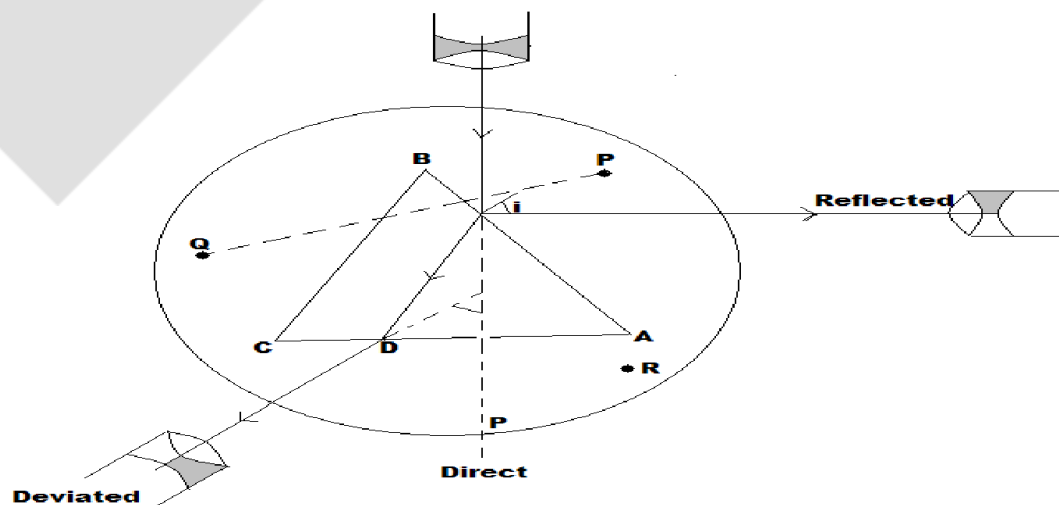

Fig 1.3: Set up for minimum deviation
- (3) **Measuring the Angle of Prism A:** Place the prism on the Prism Table and lock the prism table in the position so the incident beam falls on one of the edges of the prism. Now, move the telescope and locate the images of the slit and note down the angles. The difference between both the angles is $2A$. Hence, half of the difference will give us A .
- (4) Place the prism with the centre coinciding with the centre of the prism table and set it approximately in the position of minimum deviation, so that light falls on the face AB and emerges out from the face AC as shown in Fig. 1.3.
- (5) Turn the telescope to receive the emergent light and adjust its position so that the image of the slit is formed on the cross-wire. Clamp the telescope and note its reading on both verniers V1 and V2
- (6) Now turn the telescope to receive the reflected light from the face AB as shown in fig. 1.3. Adjust the position of telescope till the image of the slit falls on the vertical cross-wire. Clamp it and note the reading on both the verniers.
- (7) Bring the telescope back to receive the deviated ray. Turn the prism table without disturbing the circular scale in the clockwise direction so that the deviated ray is displaced by about one degree. Adjust the telescope so that the image is formed on vertical cross-wire again. Note the reading on both the vernier scales.
- (8) Turn the telescope again to receive the reflected light from the face AB. Make the necessary adjustments and note the reading on both the vernier scales.
- (9) Turn the table in clockwise direction again and take three or four observations as explained.
- (10) Rotate the prism table back to its starting position so that the prism is again in the minimum deviation position approximately.
- (11) Remove the prism and turn the telescope so that the direct light is received and the image of slit falls on the vertical cross wire. Note the reading of both the verniers.